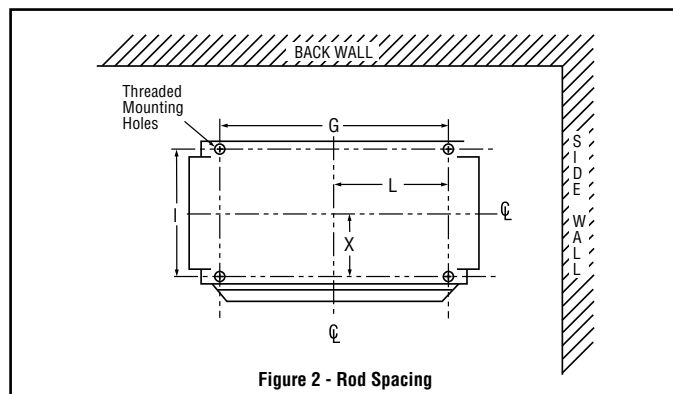

Figure 2 - Rod Spacing
- A.** The heater can be rod mounted to the ceiling by installing four (4) threaded mounting rods in the threaded holes located on the top of the heater as shown in Figure 2. (Refer to Table 3 for mounting rod thread size.)